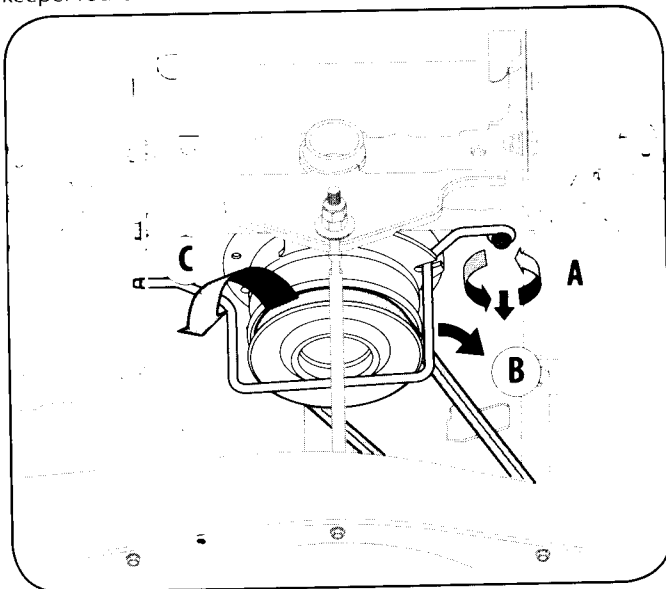

Figure 7-1
3. Remove the belt-keeper rod, from around the tractor's engine pulley, by removing the self-tapping screw **A** that secures it. See Fig. 7-1.
4. Remove the belt (C) from around the tractor's engine pulley and idler pulley(s). See Fig. 7-1.